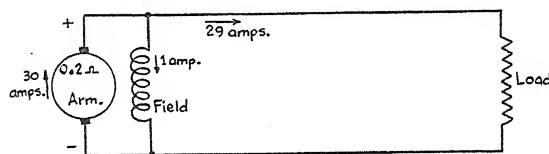

FIG. 77. Terminal voltage is always lower than generated e.m.f.
Suppose, for example, a certain generator armature actually generates 150 volts. Now suppose the armature resistance of this machine is 0.2 ohm, and the machine is delivering 30 amperes from its armature. These facts are shown in Figure 77.
2. Self-excited generators — where the fields always are electromagnets, "fed" from the armature of the generator itself, as shown in Figure 77. This generator is made in two common types:
- a) Shunt (or parallel), where the fields are connected in parallel with the armature (Fig. 77).